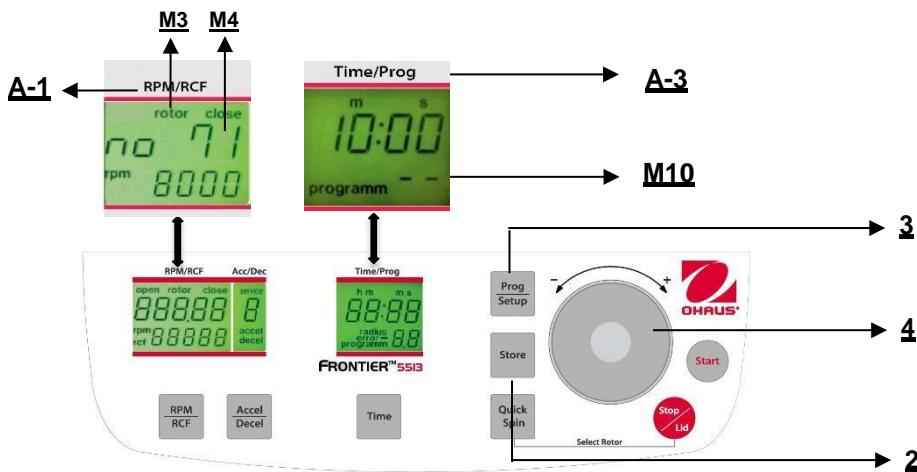

Figure. 22
To recall stored programs, press the key Prog/Setup (3) (refer to figure 22) while the lid is already closed. Inside the display Time/Prog (A-4), programm (M10) appears. The desired program number can be pre-selected with the adjusting dial (4).
To leave the program mode just press the key **"Prog/Setup"** (3) (refer to figure 22). Then inside the display **"Time/Prog"** (A-3) the word **"programm"**(M10) appears.